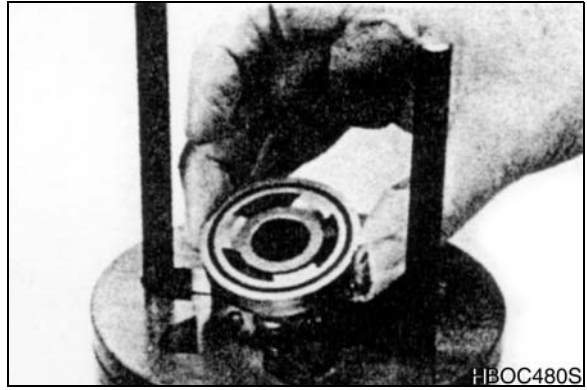

Figure 62
20. Assemble commutator over the end of drive link (10) onto manifold (7) with seal ring side up. See Figure 61, Figure 62.